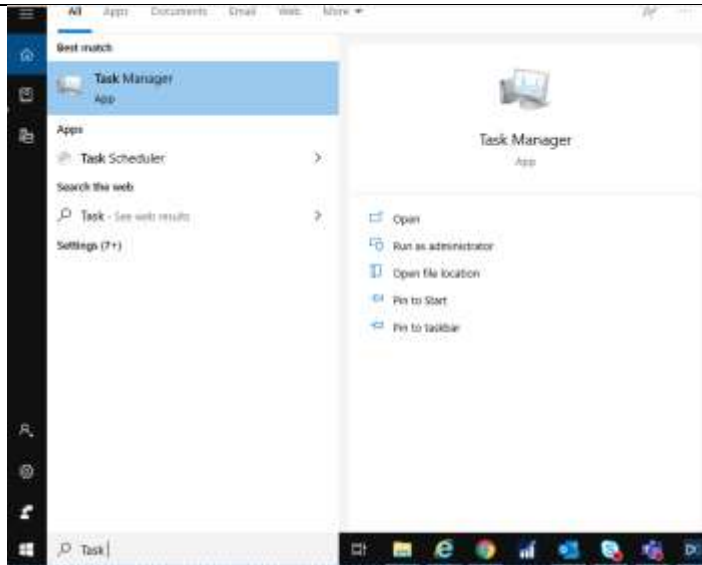
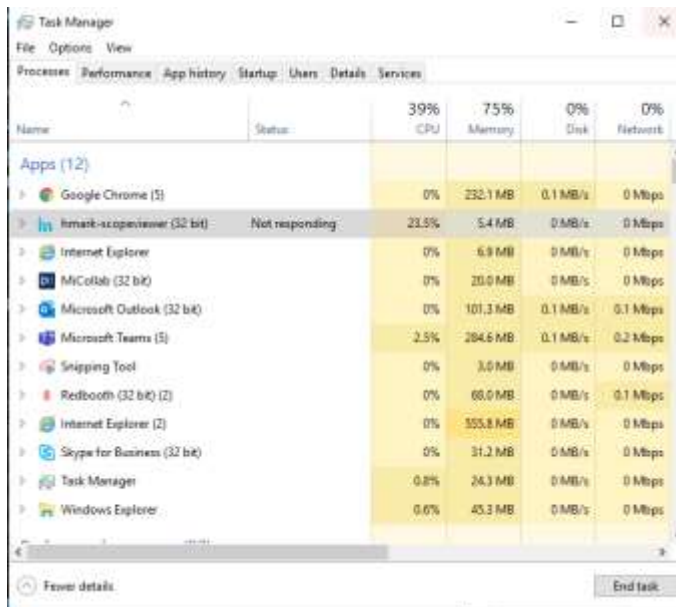

Figure 19
Figure 20
3. In such a situation when the screen freezes, you can open Task Manager from your computer and click on *Flexible Inspection Scope Software* to forcefully close it by clicking on *End Task*. (**Fig. 19, Fig. 20**)